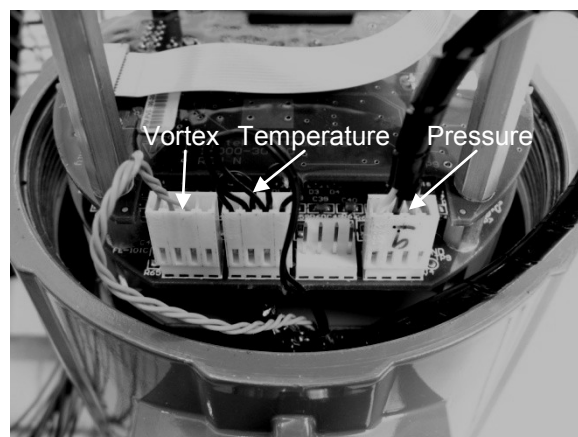
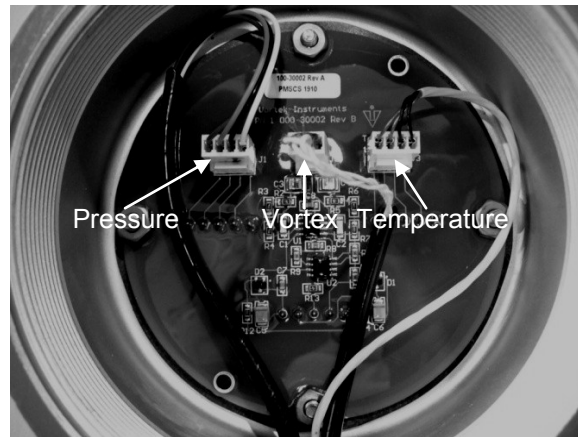

Figure 62 Electronics Stack Sensor Connections
Figure 63 Remote Feed through Board Sensor Connections
3. Using ESD precautions and hazardous area precautions, remove the electronics enclosure window cover. Disconnect the vortex sensor from the electronics stack or remote feed through board. Refer to Figure 62 or Figure 63. Measure the resistance from each outside pin to the meter ground - each should be open. Measure the resistance from the center pin to the meter ground - this should be grounded to the meter.
3. Using ESD precautions and hazardous area precautions, remove the electronics enclosure window cover. Disconnect the temperature sensor from the electronics stack or the remote feed through board. Refer to Figure 62 or Figure 63. Measure the resistance across the outside pins of the temperature sensor connector. It should read approximately 1080 ohms at room temperature (higher resistance at higher temperatures).
3. Locate the sensor harnesses which come up from the neck of the flow meter and attaches to the circuit boards. Make note of the location of each sensor connection. Refer to Figure 62 or Figure 63. The vortex sensor connection is on the left, the temperature sensor connection (if present) is second from the left, and the pressure sensor connection (if present) is the right most connector. Use small pliers to pull the sensor wiring connectors off of the circuit boards.